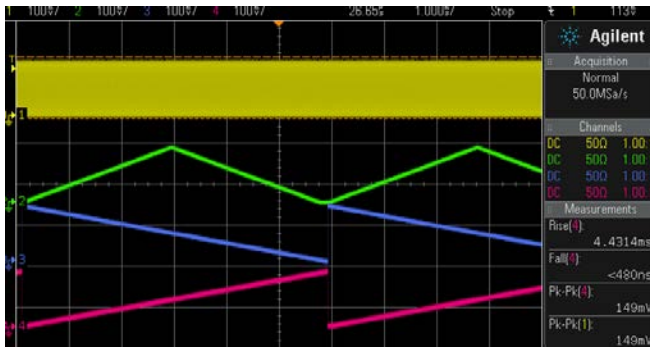

Figure 9 : Example 6 Result
- f. The outputs from J2, J1, J4 and J5 will be as shown in Figure 9